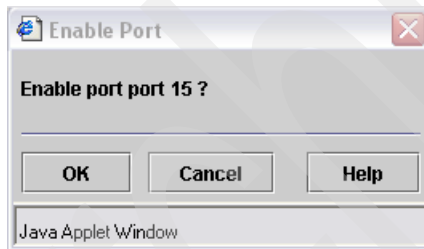

Figure 6-62 Enabling the EX\_Port
6. We have completed the initial configuration and now can enable and start this port, as per Figure 6-62.